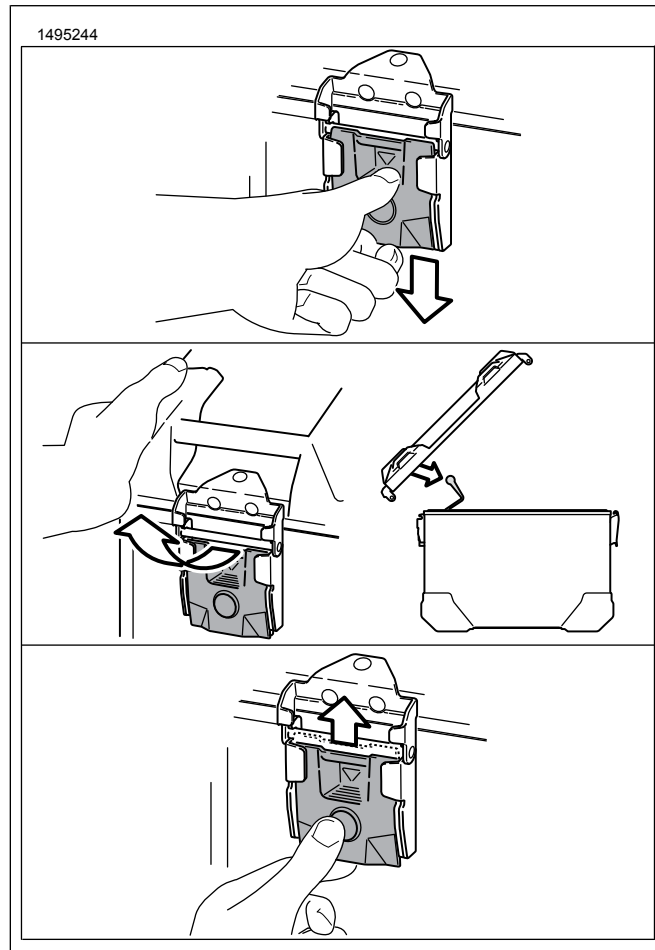

Figure 5. Lid Removal
1. See Figure 5. Press quick release fastener down until it clicks into place and button pops out.